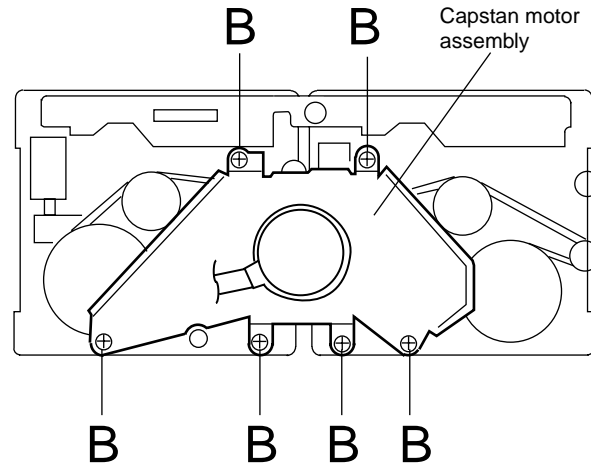

Fig.5
**■ Removing the capstan motor assembly (See Fig.5 to 7)**
- 1.Remove the six screws "B" retaining capstan motor assembly (See Fig. 5).